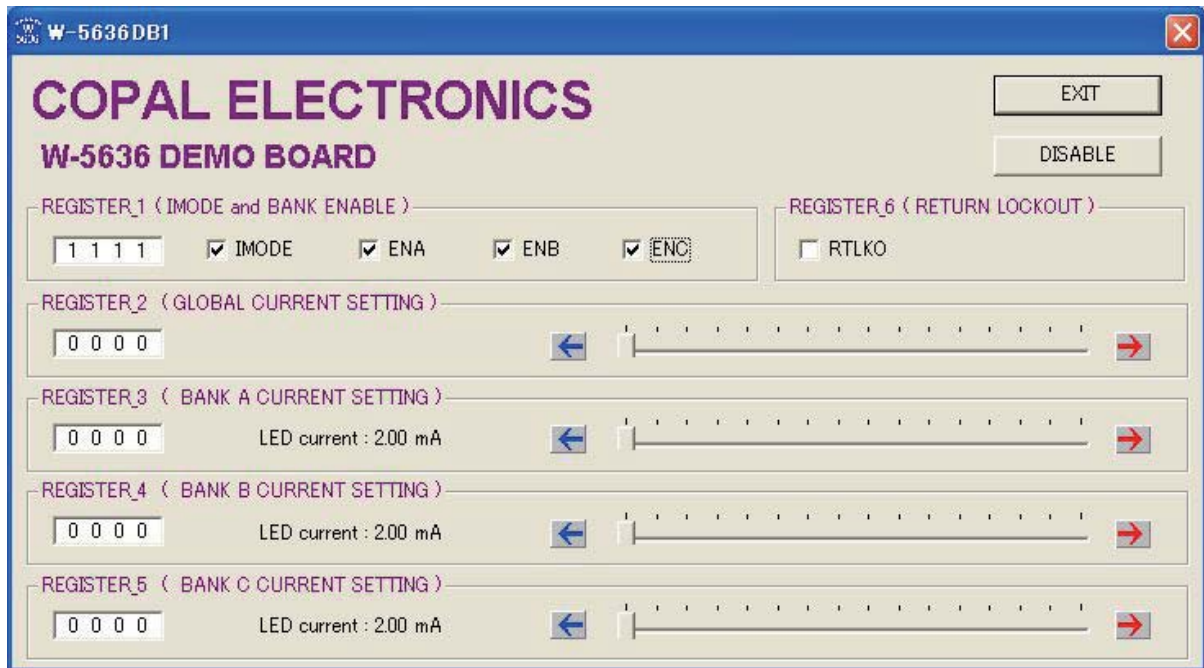

Figure 4. W-5636 with all channels enabled (IMODE=1) and ILED set to min value
- e) After the device is enabled, the user can write into the REGISTER_1 to set the current mode (IMODE) and activate the corresponding LED output channels. Figure 4 shows all the LED channels active and current mode set to high current range (up to 32mA) selected. The current for each channel is set at the minimum value (=2.0mA).